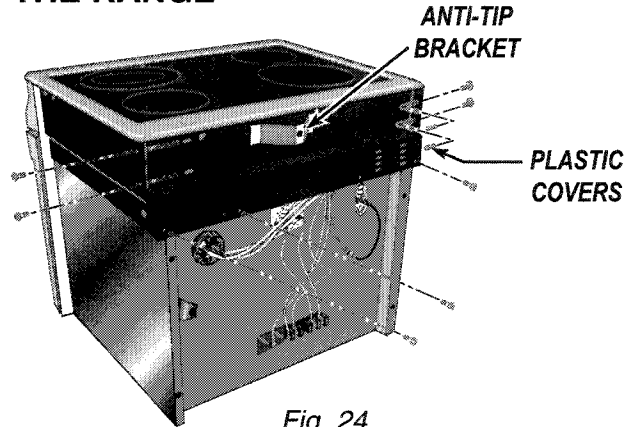

Fig. 24
2. Remove the seven (7) screws securing the oven top rear panel to the range. (Fig. 24)
NOTE: The threads of the four (4) screws securing the oven top rear cover to the side panels are protected by plastic covers. Do not lose these. They must be reinstated when reassembling the range. (Fig. 24)